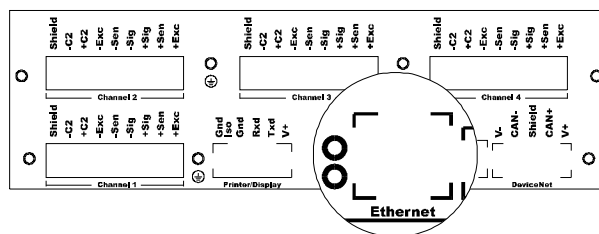

FIG. 26: REAR PANEL/ETHERNET RJ 45 CONNECTION
- Step 1. Plug the RJ45 connector into the Ethernet Connection at the rear panel of the instrument or the Junction Box. (See Fig. 26)